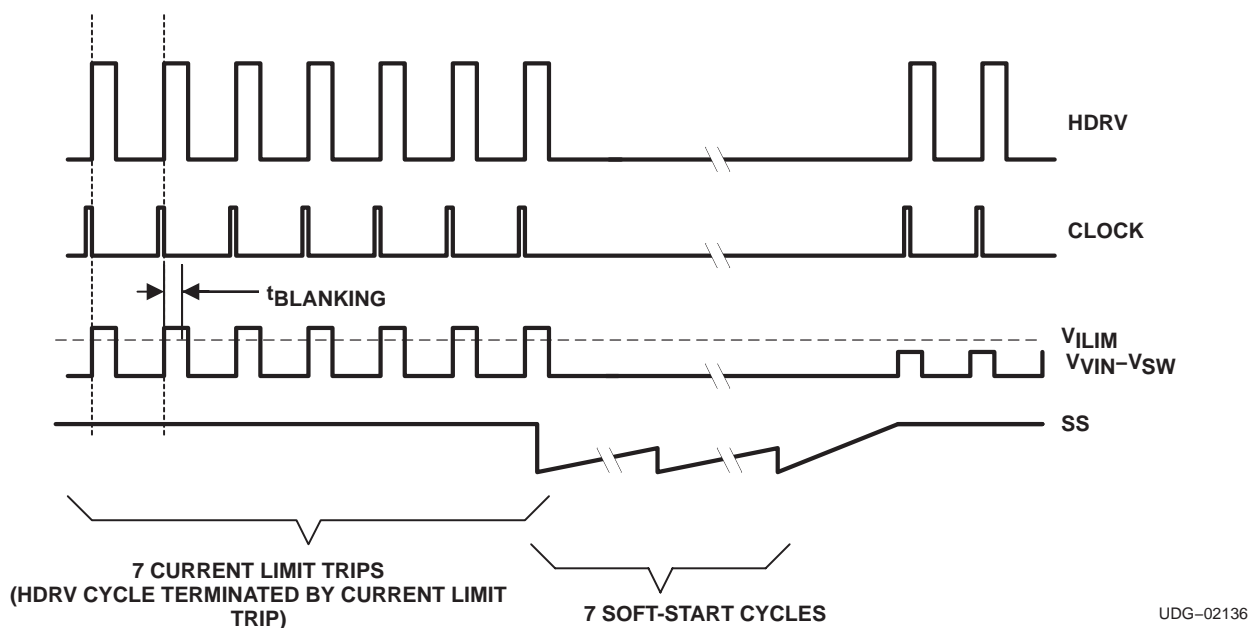

Figure 3. Typical Current Limit Protection Waveforms
The second tier consists of a fault counter. The fault counter is incremented on an overcurrent pulse and decremented on a clock cycle without an overcurrent pulse. When the counter reaches seven (7) a restart is issued and seven soft-start cycles are initiated. Both the upper and lower MOSFETs are turned off during this period. The counter is decremented on each soft-start cycle. When the counter is decremented to zero, the PWM is re-enabled. If the fault has been removed the output starts up normally. If the output is still present the counter counts seven overcurrent pulses and re-enters the second-tier fault mode. See Figure 3 for typical overcurrent protection waveforms.